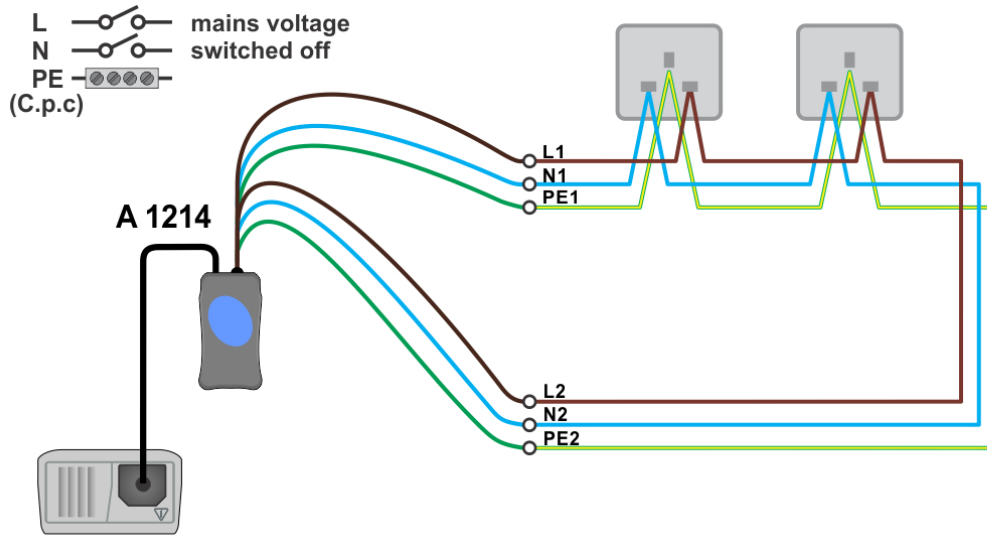

Figure 5.17: Step 1 - measurement of resistances r_1 , r_N and r_2
- ❑ **Connect Easy Switch** to the instrument (see figure 5.17)
- ❑ **Connect Easy switch** to the final ring circuit. The electrical installation must be de-energized during the test (see figure 5.17).